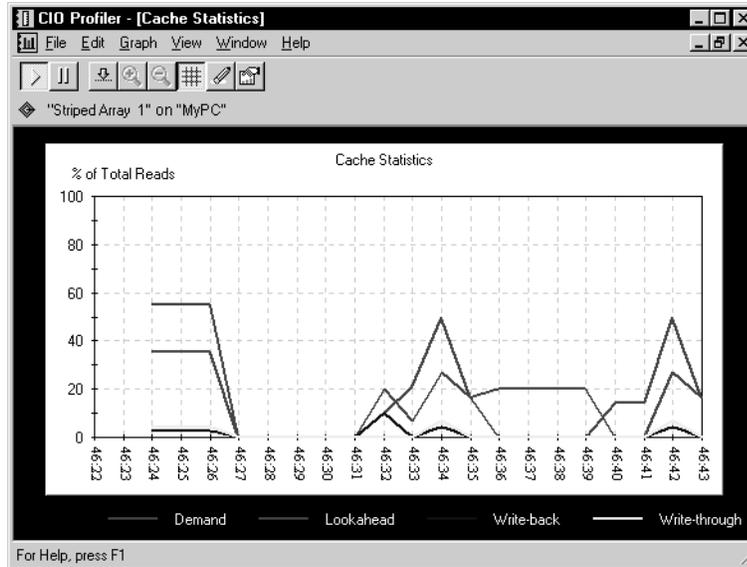

Figure 7-5. CI/O Profiler Window
- 2 When the Operations dialog box appears, click the  button. The CI/O Profiler window appears, as shown in Figure 7-5.
- 3 View the information on the graph. If you selected an RAID card, the graph shows information for all devices controlled by the RAID card. Figure 7-5 shows an area graph for a selected array. The graph displays the percentage of total Read cache hits compared to the total number of read commands.
- **Area:** (see Figure 7-5) Similar to a line graph, but with the area beneath the line filled in.
- **Object Info bar:** The Object Info bar, which appears below the toolbar (see Figure 7-5), lists information about the device that is being graphed.